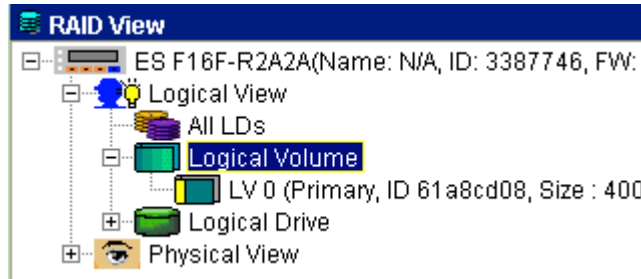

Figure 8-59: List of LVs
8.4.3 Partitioning a logical volume (LV)
Step 1. Select the “**Logical Volume**” icon from the Logical View navigation panel shown in **Figure 8-59**. As shown in **Figure 8-59**, all the LVs that have been created will appear below the “**Logical Volume**” icon.
Step 2. From the list shown in *Figure 8-59*, select the LV that you wish to partition. Once this LV has been selected a “*View and Edit LV Partition*” table will appear in the content panel. See *Figure 8-59*.